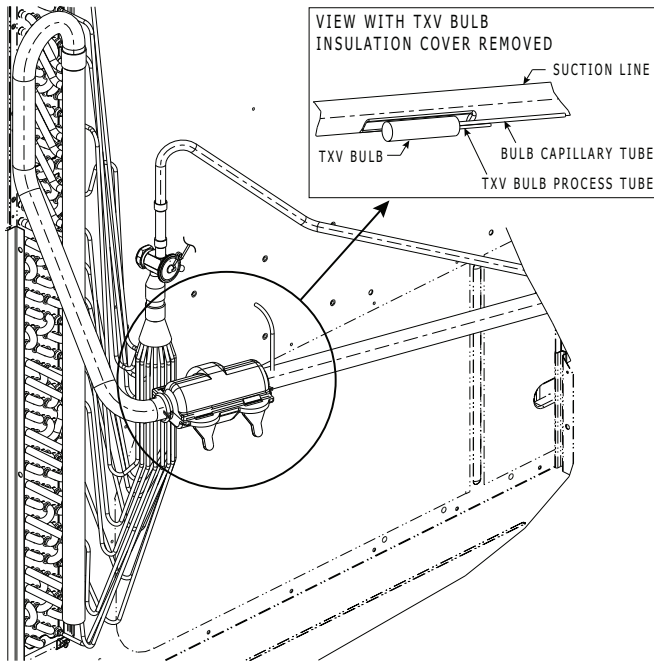

Fig. 21 — TXV Valve and Sensing Bulb Location
10. Attach TXV bulb in the same location where the original (in the sensing bulb indent) was when it was removed, using the supplied bulb clamps. See Fig. 21.